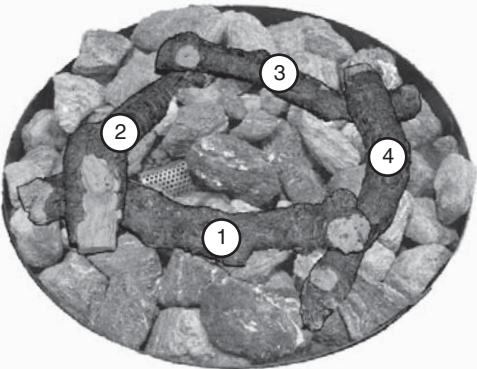

Fig. 17-2
2. Lay an end of Log #3 over the unattached end of Log #2 at a 90-degree angle (see Fig. 17-2).
3. Place one end of Log #4 over the open end of Log #3 and the other end underneath the open end of Log #1, creating a kind of square (see Fig. 17-2).